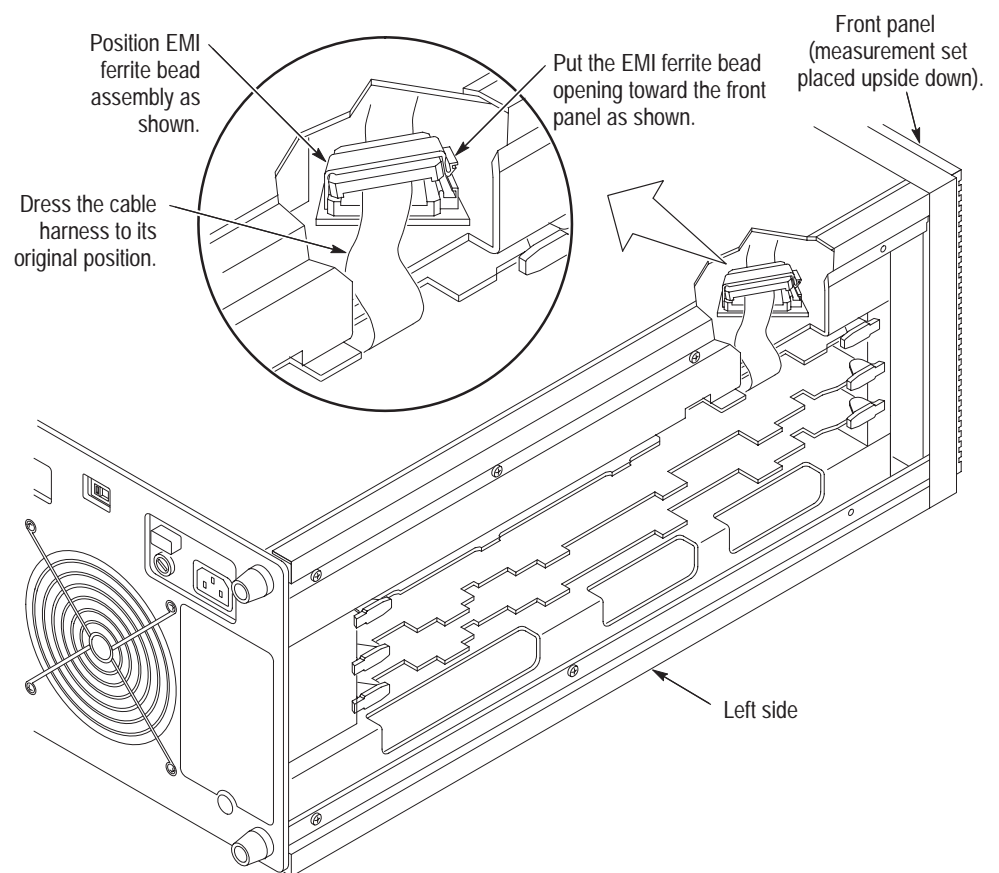

Figure 9: Clamp-on ferrite bead position (not for 119-4258-XX power supplies)
- Slip the ribbon cable into the clamp-on ferrite bead and position the opening to face outward at an angle on the chassis panel as shown in Figure 9.